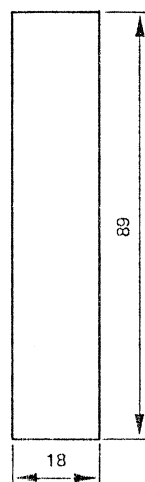

Fig. 6.4.-2
- Cut out front panel according fig. 6.4.-2.
- Wire according fig. 6.4.-3.